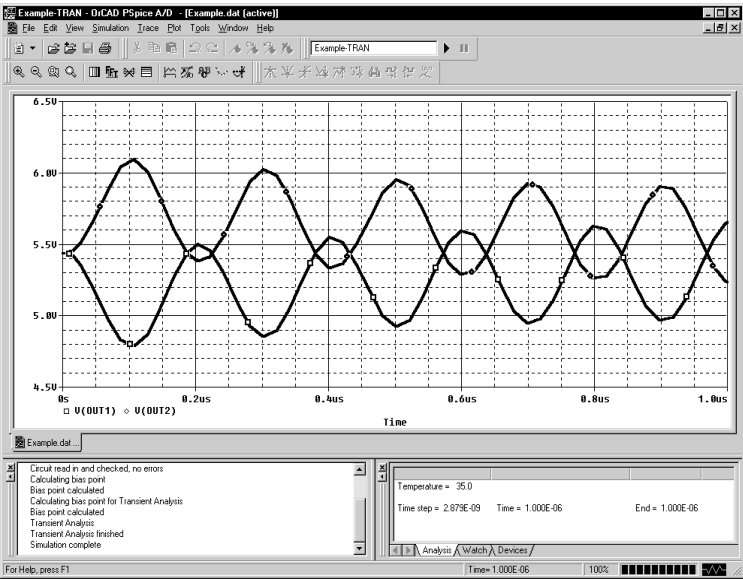

Figure 96 Waveform display for EXAMPLE.DAT.
PSpice generates a binary waveform data file containing the results of the simulation. A new Probe window appears with the waveform data file EXAMPLE.DAT already loaded (Figure 96).
- 2 Click V(OUT1) and V(OUT2), then click OK. The Probe window should look similar to Figure 96.